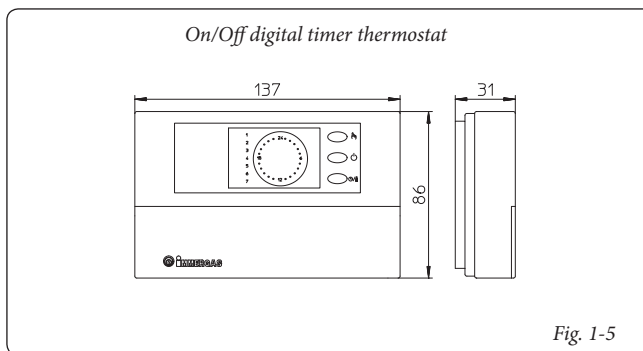

Fig. 1-5
- On/Off digital chronothermostat (Fig. 1-5). The timer thermostat allows: